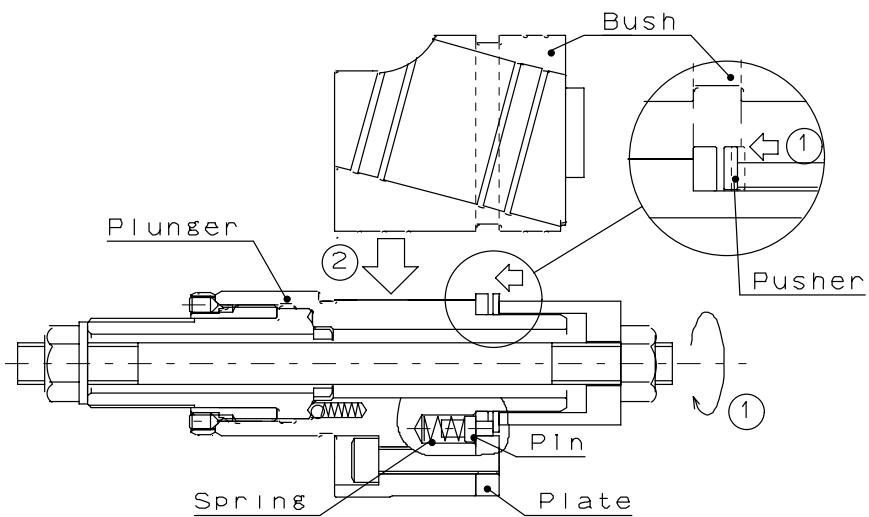

Fig.29
1. Attach the pusher [14] to the plunger [3], and attach the jig as shown in Fig.29.